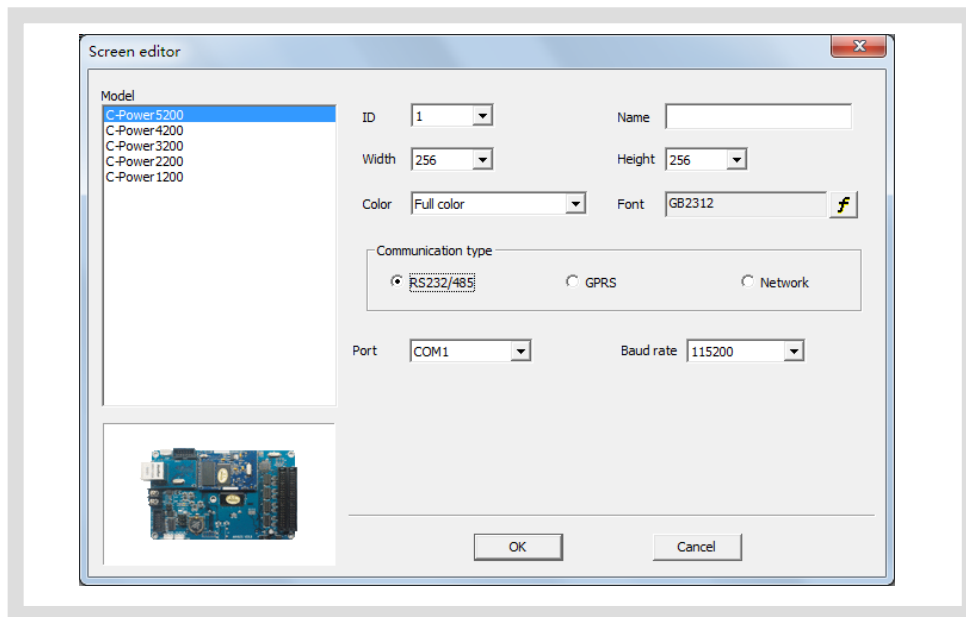
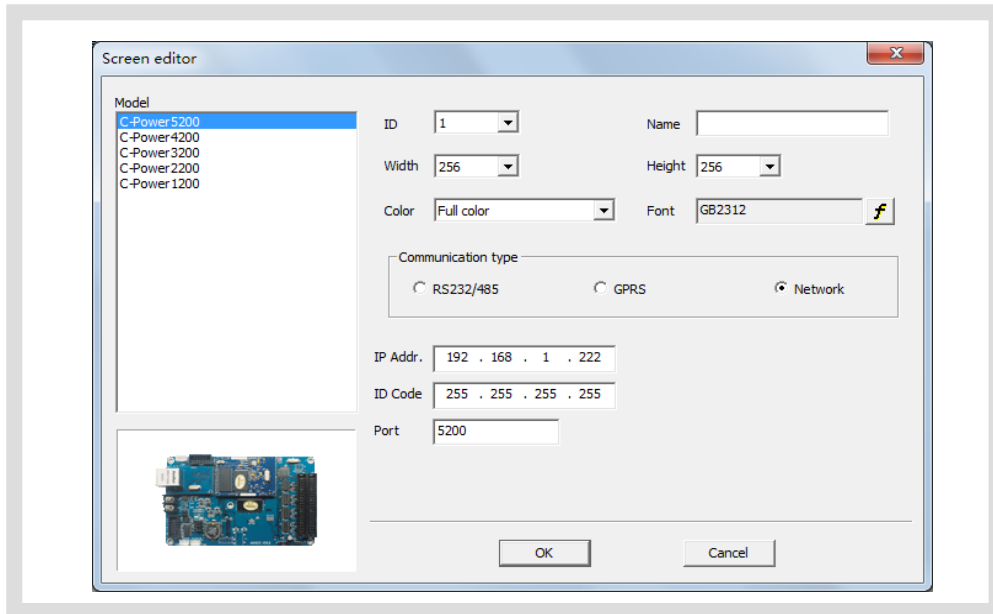

Figure5 “Screen editor” dialog box under COM port mode
Figure6 “Screen editor” dialog box under network mode
- 4) After click “New” or “Edit” button, enter the password¹ in the authority confirmation box, and the box of “Screen editor” pops up, as shown in Figure5 and Figure6.
- B. Name: user can name the LED screen freely. The name will appear at the edit field. If no name input, the system will automatically display “C-Power 5200 (ID)”